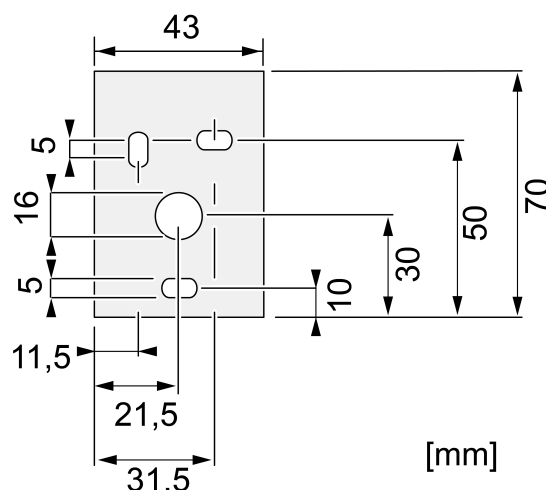

Figure 8: Fastening arm – dimensions for boreholes
- Wall mounting: Attach fastening arm to the wall through the boreholes (Figure 8) using suitable screws.
- Attach the 7-pin plug to the connection (7). Tighten threaded ring with max. 0.5 Nm.